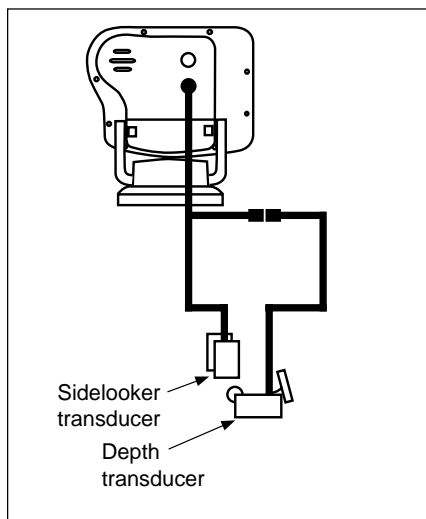

Fig. 2-14
1. If the installation includes the optional Sideloooker transducer, there will be two transducer cables. See Fig. 2-14. The cable from the Sideloooker includes a “Y” connector.